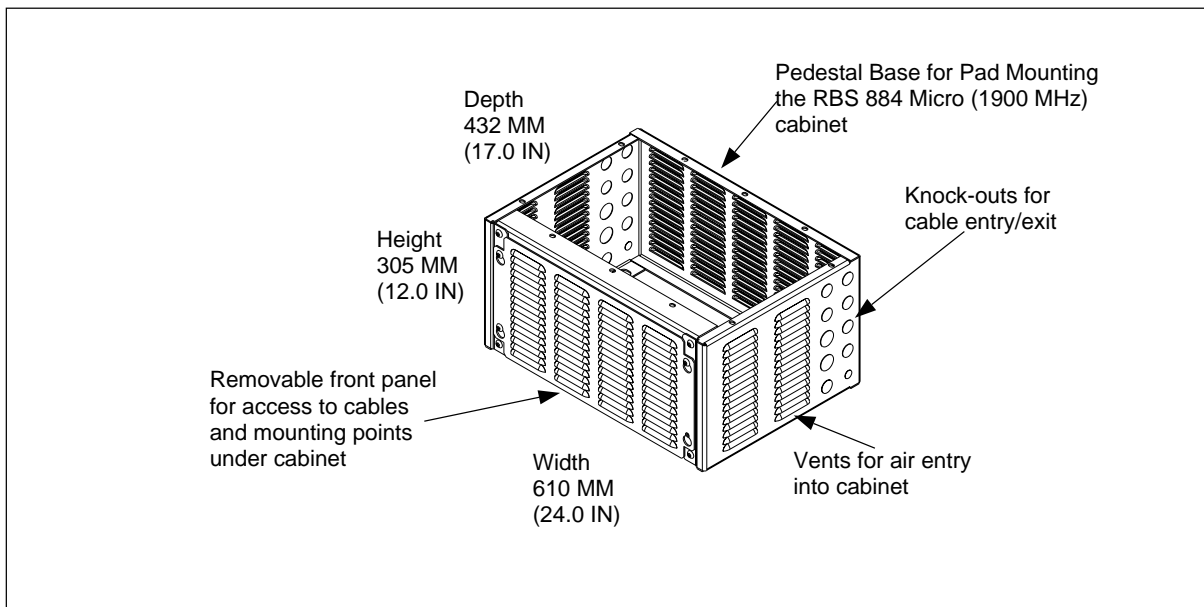
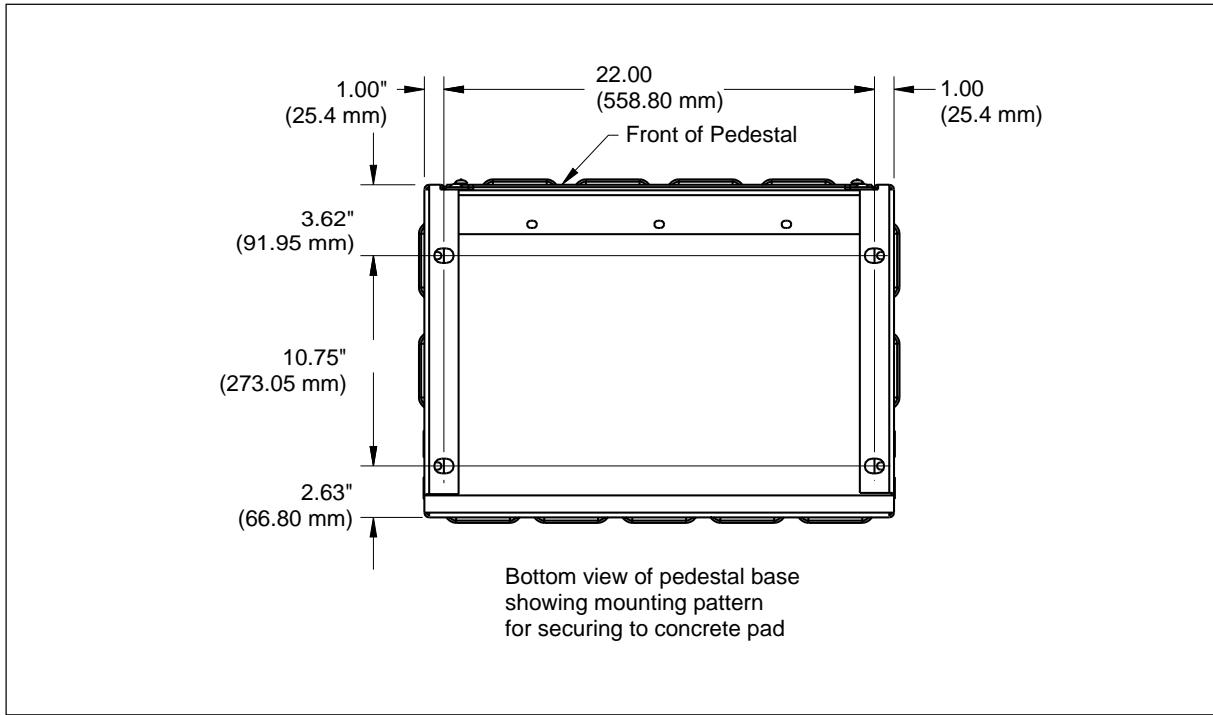

Figure 4-2. Pedestal Base
Figure 4-3. Bottom View of Pedestal Mount
5. Place the pedestal base on the concrete pad. Figure 4-2 on page 4-13 illustrates the pedestal base. Align the pedestal base with the screw anchors that were installed when the concrete pad was poured. If the screw anchors were not installed at that time, use the pedestal base to mark the mounting holes for the anchors and drill. See Figure 4-3 on page 4-14 for the location of the mounting holes on the pedestal base.